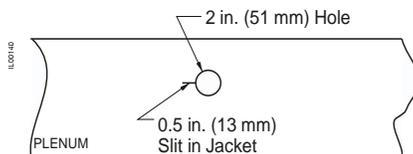

FIG. 2
**STEP 2.** Cut a ½-inch (13 mm) slit in the plenum jacket (Fig. 2).